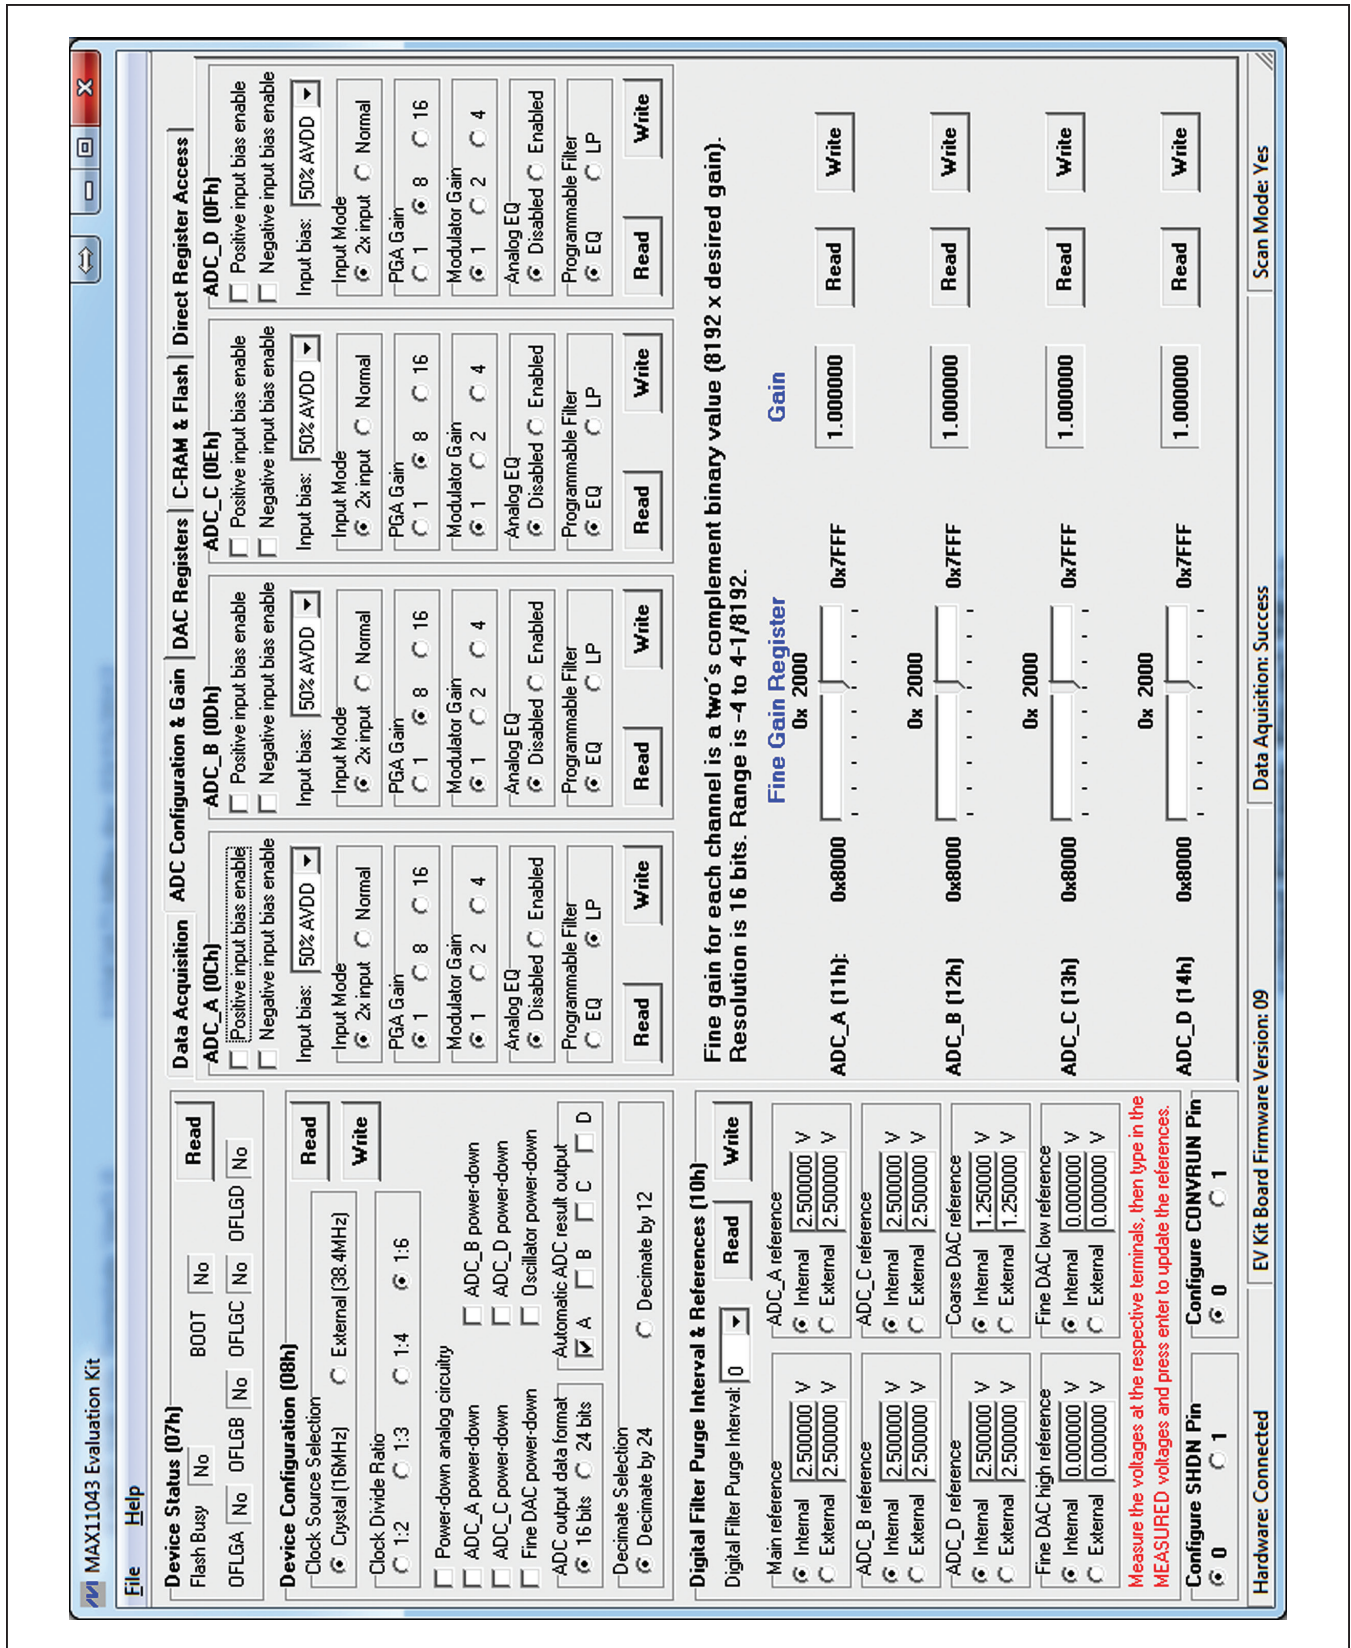

Figure 5. MAX11043 EV Kit Software Main Window (ADC Configuration & Gain Tab)
- 11) Navigate to the **ADC Configuration and Gain** tab shown in Figure 5. In the **ADC_A (0Ch)** group box, set PGA gain to **1**, programmable filter to **LP**, and then press the **Write** button.
On the **ADC Configuration and Gain** tab sheet, all ADC configuration registers and fine gain registers are displayed, as shown in Figure 5.